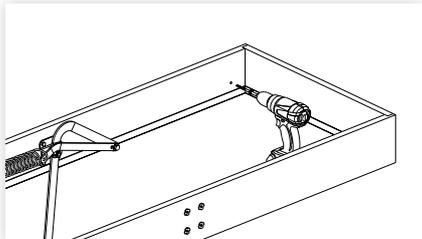

figure 14
7. With the ceiling cupboard open, pre-drill two 6mm holes in each side of the ceiling cupboard frame making sure there is solid timber behind. Screw through the pre-drilled holes into the ceiling frame (figure 14). Do not fit tight yet.